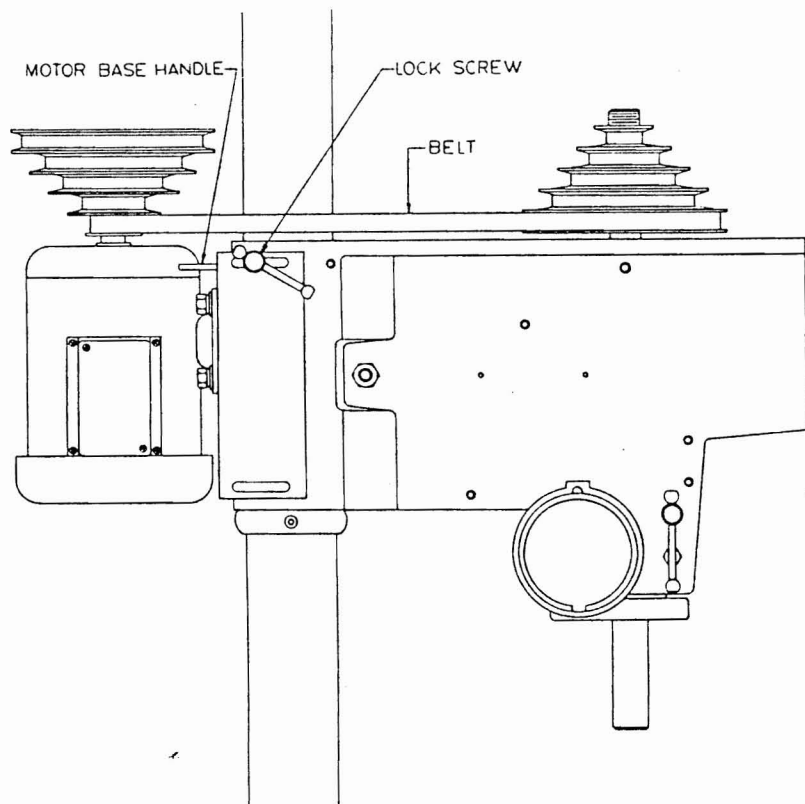

FIGURE 2
- c. Loosen motor base clamp (Fig. 2) place belt over pulleys and into lowest speed grooves. Push motor base clamp to rear for light belt tension and turn lock screw clockwise to lock. Too much tension will cause excessive vibration, shaft breakage, bearing noise and wear.
Speed changes on step pulley models are to be made with the machine not running - - loosen motor base clamp (Fig. 2) and pull handle toward operator. Belt is now free to move to any of the 5 speeds available. When speed choice is made, move handle to rear for proper tension and lock the motor base.